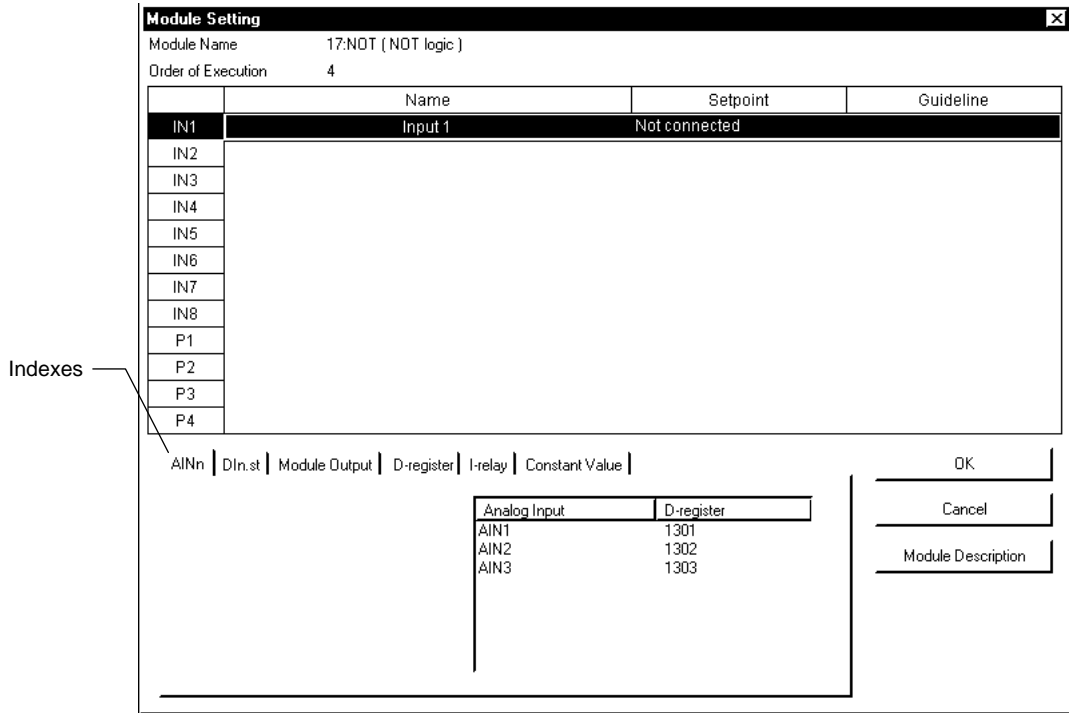

Figure 4.2.10 [Module Setting] Dialog Box
- The [Module Setting] dialog box (Figure 4.2.10) appears.